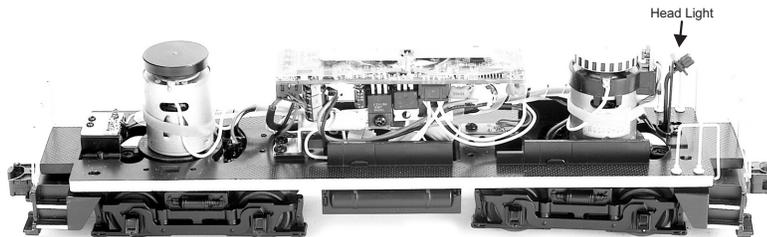

Figure 4. Location of the headlamp in the Engine.
B. Remove the trucks from the chassis and the truck sides from the trucks in order to slip the new tire over the grooved drive wheel. See Fig. 4 for which screws you must remove to do this.
Follow the cab removal instructions found in the "Lubrication and Greasing" section of this booklet. Once the body has been removed, remove the lightbulbs, Fig. 4, and replace it.